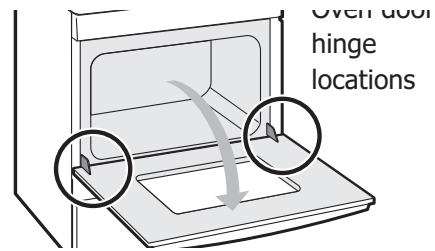

Figure 17: Door hinge location
1. Open oven door completely, horizontal with floor (See Figure 17).
3. Fully open the oven door, horizontal with floor (See Figure 17).